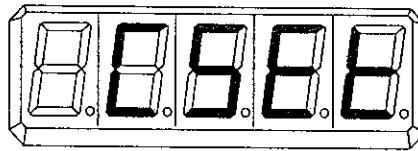

fig 4
- 4) **HOLD** KEY : This key is used to enter into CAL setting mode for setting maximum capacity,, minimum division, span, and factor. If you press **HOLD** KEY for displaying initial menu on WEIGHT DISPLAY will show message as fig 4 and the scale turn to CAL setting mode.